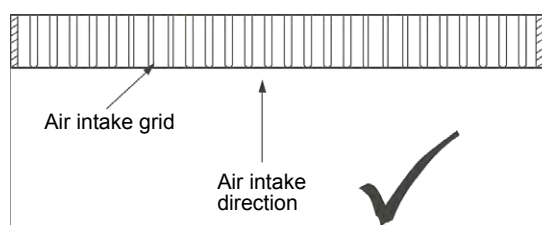

Figure 3.10
- 1) Pay attention to maintain the parallelism between the air grid angle and the air intake direction when you make the air intake panel of the air return box. Refer to Figure 3.10.